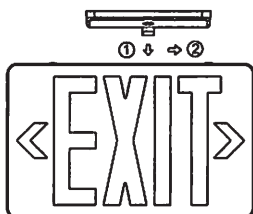

Fig 5
4. Remove out the mounting hole cover on the top and side of the unit, assemble the canopy (see Fig 5).